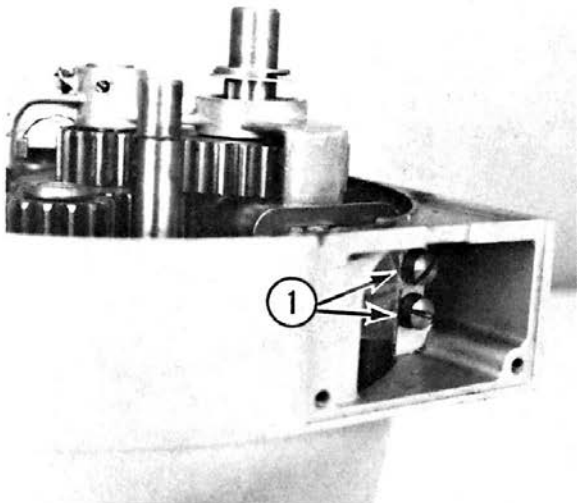

Fig. 3-10
- E. Remove the two cam plate retaining screws (1, Fig. 3-10).